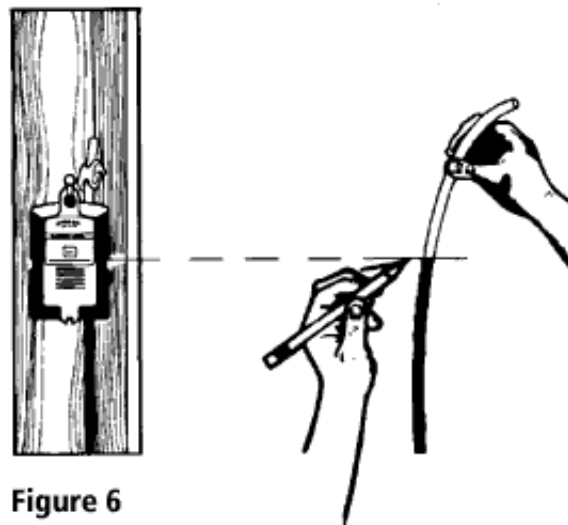

Figure 6
4. SLOWLY raise the end of the long tube until the sound just starts and mark on the work surface where the corresponding water level is (see figure 6).